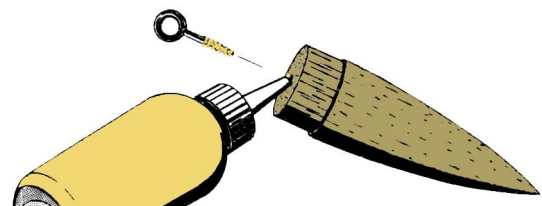

Figure 4
- **Step 6** Use the threads of the screw eye to cut a hole in the base of the nose cone, then carefully reverse-thread the screw eye back out. As shown in Figure 4, force glue down into the hole, and coat the threads on the screw eye with glue. Now, re-thread the screw eye into the hole, and set aside in a nose-down vertical position until the glue has dried.